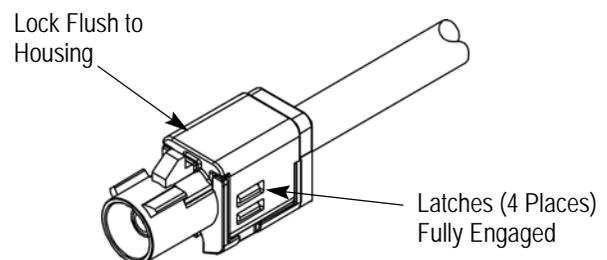

Figure 7
9. Make sure that all parts of the lock are flush to the housing. Refer to Figure 7 for a properly assembled jack kit.